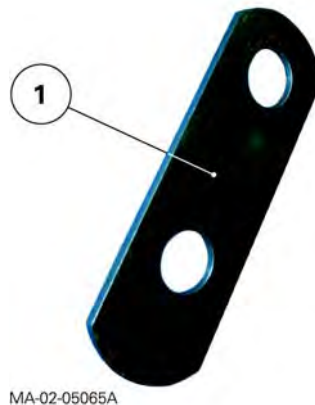

Fig. 27
When the front frame is fitted to the Perkins 4-cylinder 105 Hp engine, the face of the engine/lower housing is not in contact with the face of the front frame. It is therefore advised to fill this space with shims (1) (Fig. 27) whose thickness will be measured and set afterwards.